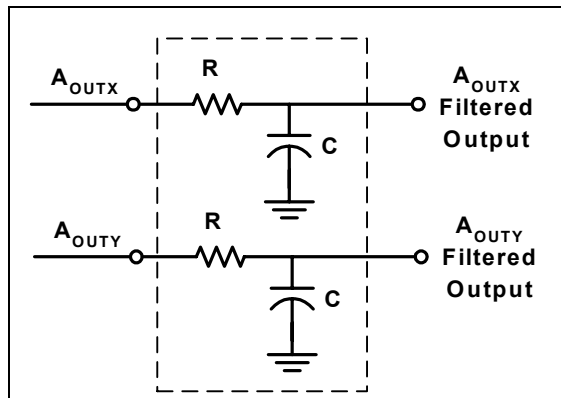

Figure 4: Low Pass Filter
**Low Pass Filter:** An external low pass filter is useful in low frequency applications such as tilt or inclination. The low pass filter limits the noise floor and improves the resolution of the accelerometer. **When designing with MEMSIC ratiometric output accelerometers (MXRxxxx series), it is highly recommended that an external, 200 Hz low pass filter be used to eliminate internally generated periodic noise that is coupled to the output of the accelerometer.** The low pass filter shown in Figure 4 has a  $-3\text{dB}$  breakpoint given by the equation:  $f = \frac{1}{2\pi RC}$ . For the 200 Hz ratiometric output device filter,  $C=0.1\mu\text{F}$  and  $R=8\text{k}\Omega$ ,  $\pm 5\%$ ,  $1/8\text{W}$ .